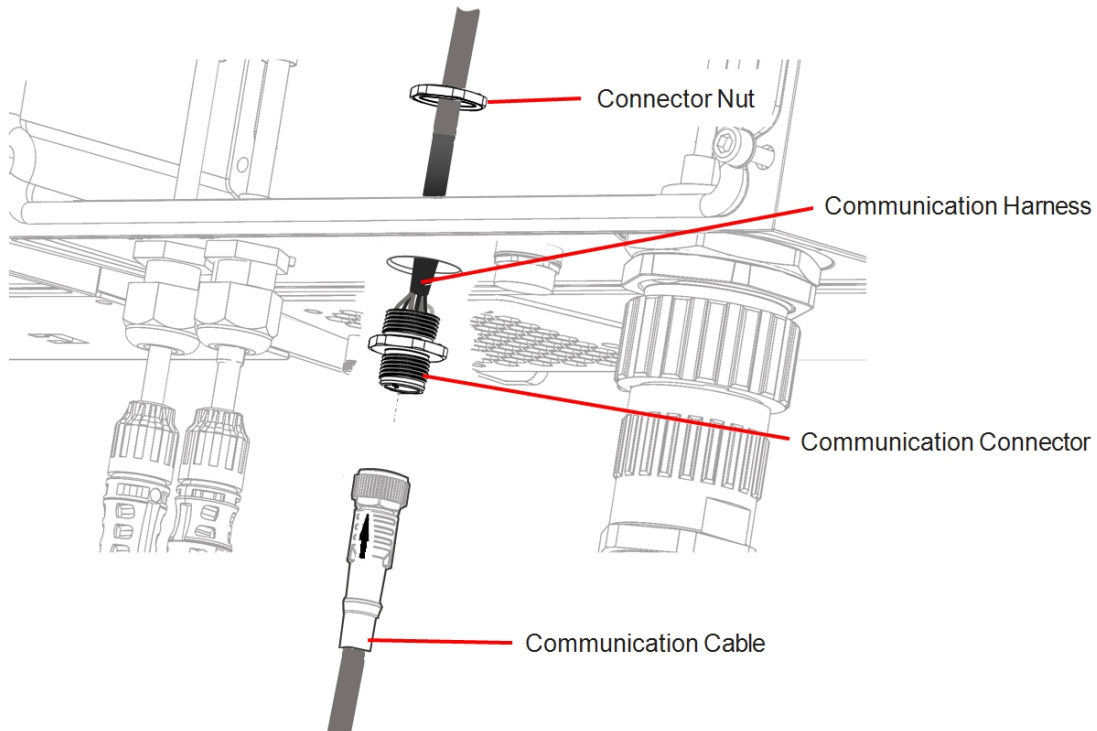

Figure 2: Removal of the Communication Harness
1. Disconnect the Communication Cable from the Synergy Unit (See Figure 2).
2. Insert the replacement Communication Connector into the hole in the Synergy Unit and fasten the Connector Nut to a torque of 1.5 N*m / 13.3 lb*in (See *Figure 2*).
3. Connect the Communication Cable to the Synergy Unit. Note that the arrow on the plug of the Communication Cable is aligned with the guide inside the Communication Connector (See *Figure 2*).